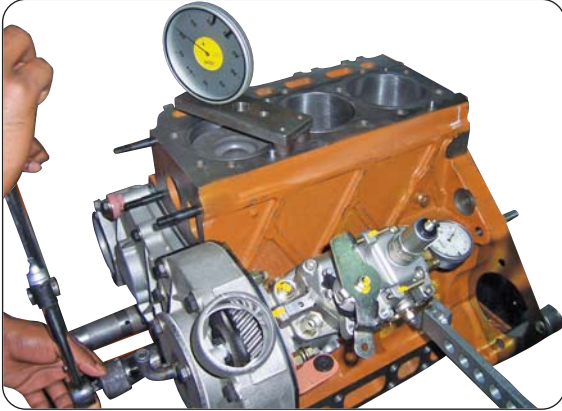

Fig. 1
4. Remove special plug provided at backside of FIP & insert dial (ASN0600G013) with adapter as shown in Fig.1.